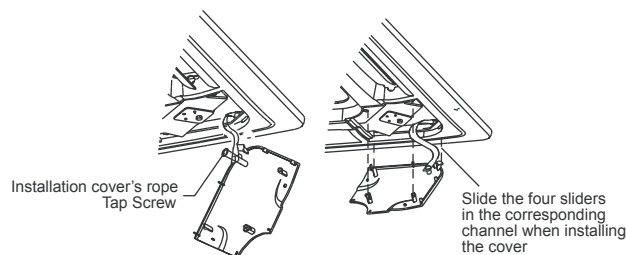

Fig.5-14
- Fasten the rope of installation cover on the bolt of the installation cover. (Refer to Fig.5-14-left)
- Press the installation cover into the panel slightly. (Refer to Fig.5-14-right)